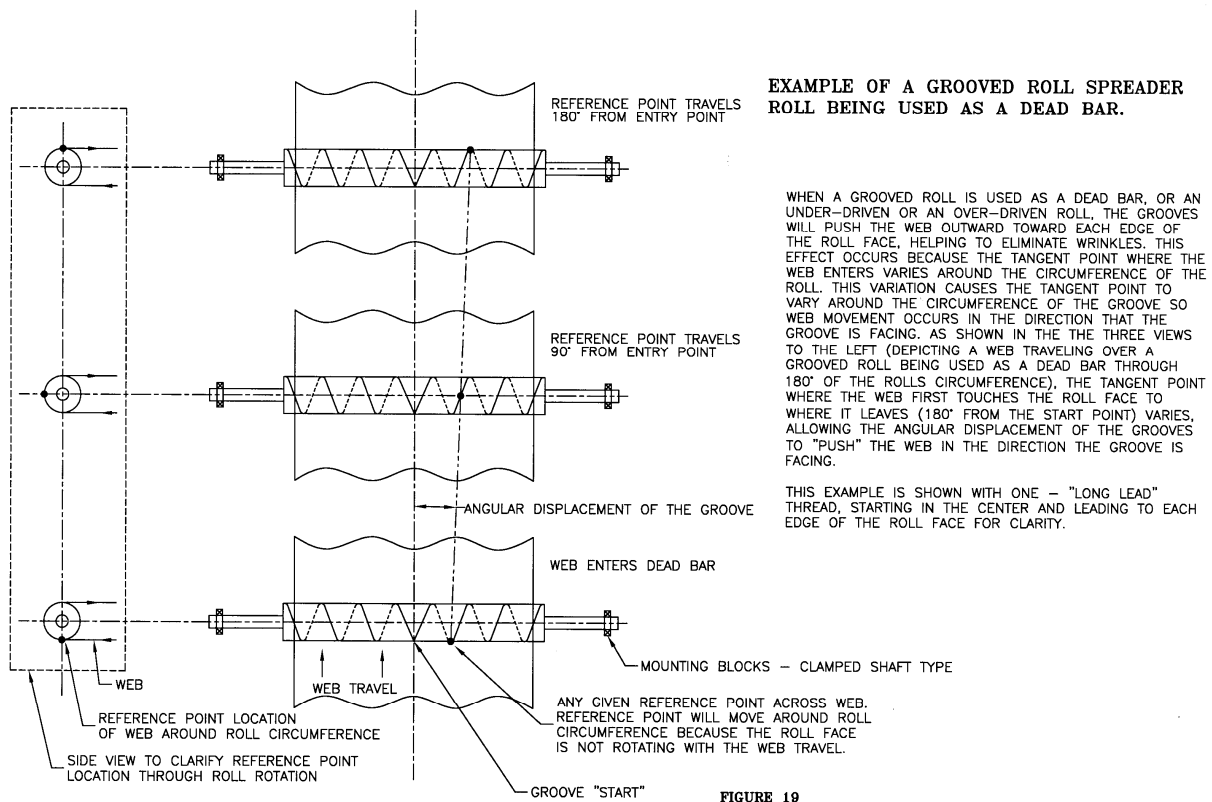

FIGURE 19
- When the surface speed of this type of roll is not synchronized with the web speed (standing completely still is included here) then we get a different level of performance with this type of roll. When this is the case, the grooves will push the web outward toward each edge of the roll face. This effect occurs because the tangent point where the web touches the roll face is ever-changing as the web travels around the circumference of the roll. The changing position of this tangent point ensures that the web, at that point, will travel in the direction the groove is facing. See figure 19.